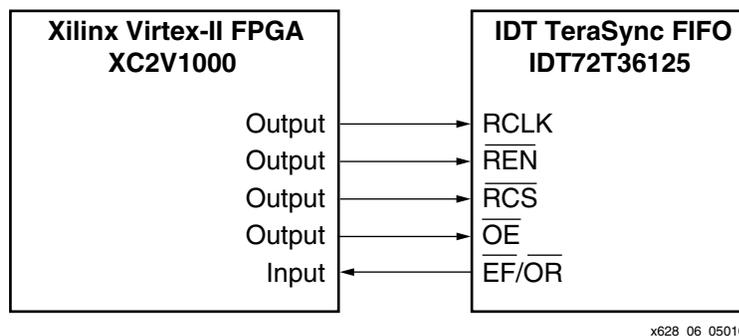

Figure 6: Signals Relevant for Read Operations in IDT Standard Mode
Data stored in the FIFO can be read out from the output bus Q[35:0]. The signals associated with read operations are:  $\overline{REN}$ , RCLK,  $\overline{RCS}$ , and  $\overline{EF}$ . To initiate a read operation, set  $\overline{REN}$  to Low. Data is loaded from the RAM array into the output register on the rising edge of every RCLK as long as the  $\overline{EF}$  signal is not Low. In IDT Standard mode, every word read must be requested using  $\overline{REN}$  provided as long as the  $\overline{RCS}$  signal is Low.  $\overline{RCS}$  provides synchronous enable control of the Read port. If it is inactive, the output bus will be 3-stated. The sample Verilog code (4) for single Read operation in IDT standard mode is included in the reference design file on the IDT web site. Figure 6 is a block diagram of the associated signals for implementing the read operation of the TeraSync FIFO.